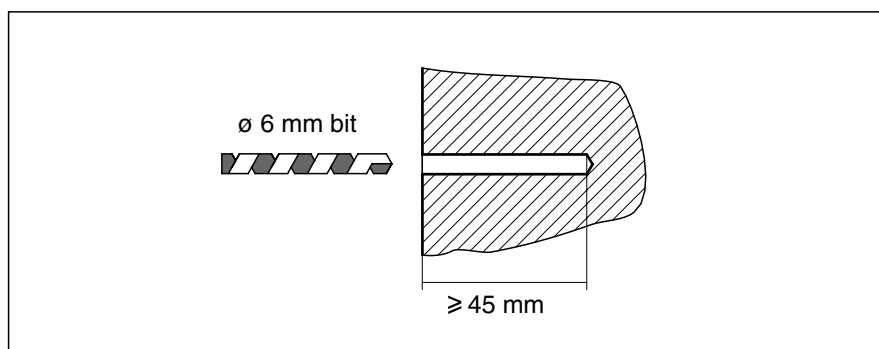

Figure 15. Drilling screw holes into a wall
4. Drill holes (≥ 45 mm) into the wall (Figure 15). Use a drilling machine with a $\varnothing 6$ mm drill bit.